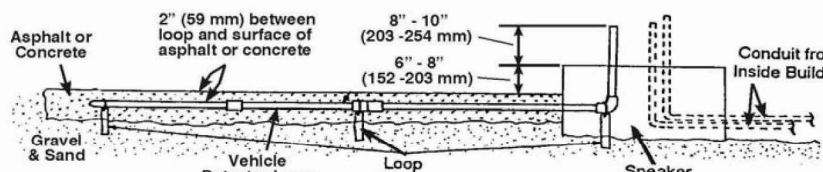

Figure 3. Side view of loop in asphalt or concrete
- Flatten the loop (folded for shipping) as shown in Figure 2 (1). Fit the pipe securely into the couplings (2). Lay the loop flat in the drive-thru lane and position it as shown in Figure 2. Elevate the loop on supports that are anchored to the ground, as shown in Figure 3. Level the loop so it will be 2 inches (51 mm) or less from the paved surface when the concrete is poured. Fasten the loop to the supports with wire, so it will not float when the concrete is poured.
- Pull the loop wires through the PVC loop extension (4). Slide one end of the sleeve coupling (3) over the nipple on the corner fitting of the loop (5), and slide the end of the loop extension into the other end of the sleeve coupling.
- Pull the loop wires through the elbow coupling (6) and the remaining 2 foot (.61 meter) piece of PVC (7). Slide the two ends (of 4 & 7) into the coupling (6), positioning the piece of PVC (7) so it points upward, out of the ground. Be certain it is next to and parallel to the outlets of the conduit coming into the speaker post or menu board from the building.